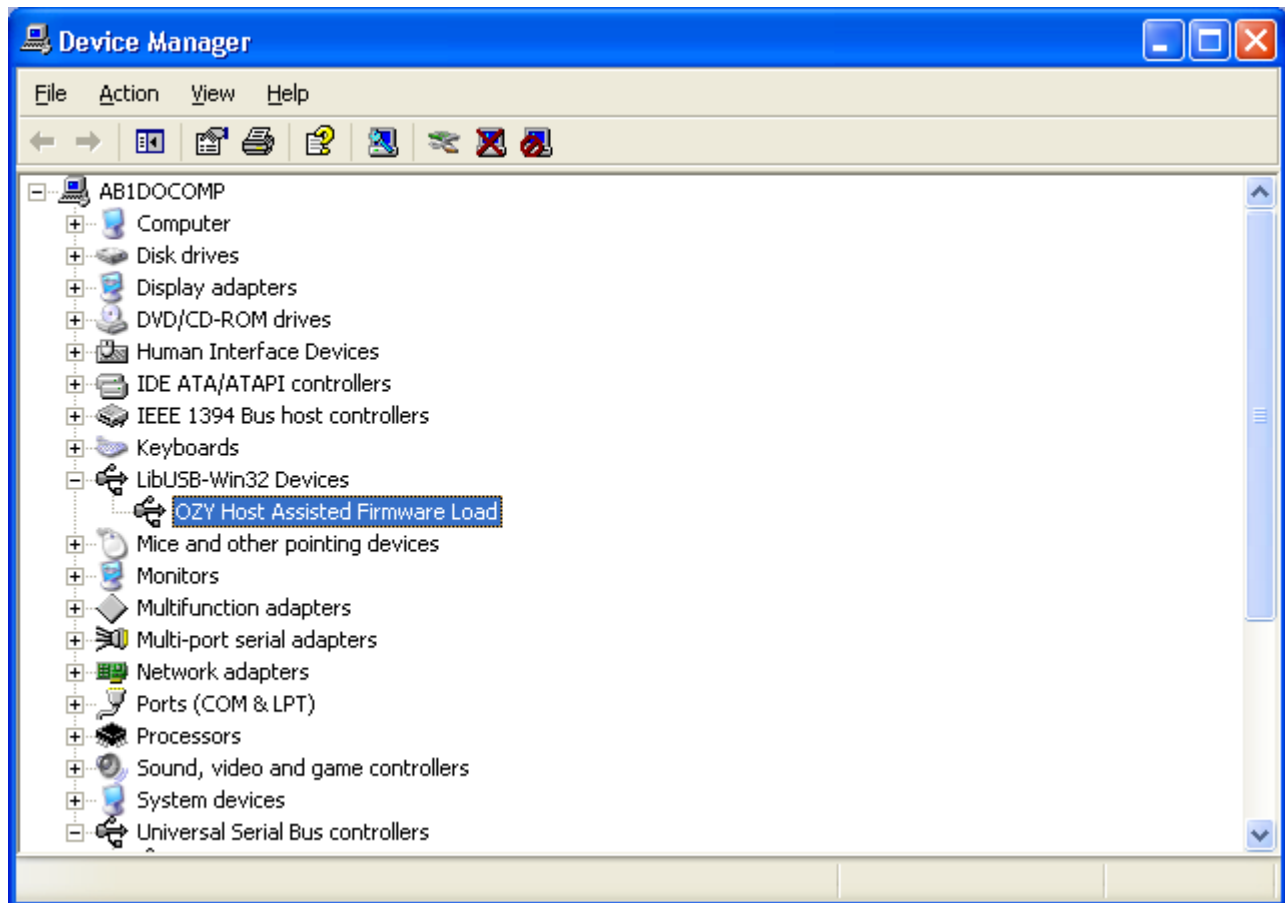

Fig 6: Device Manager Displaying Ozy Driver
3. Click **Finish** when the wizard is done installing Ozy. The updated driver can be found in the Device Manager as shown in Fig 6.